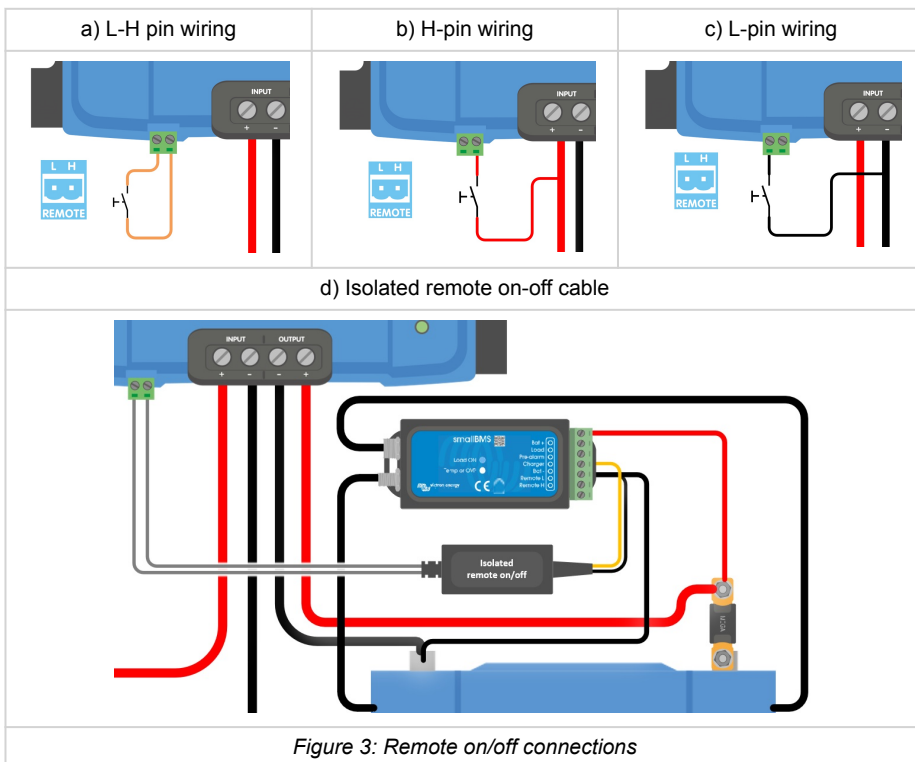
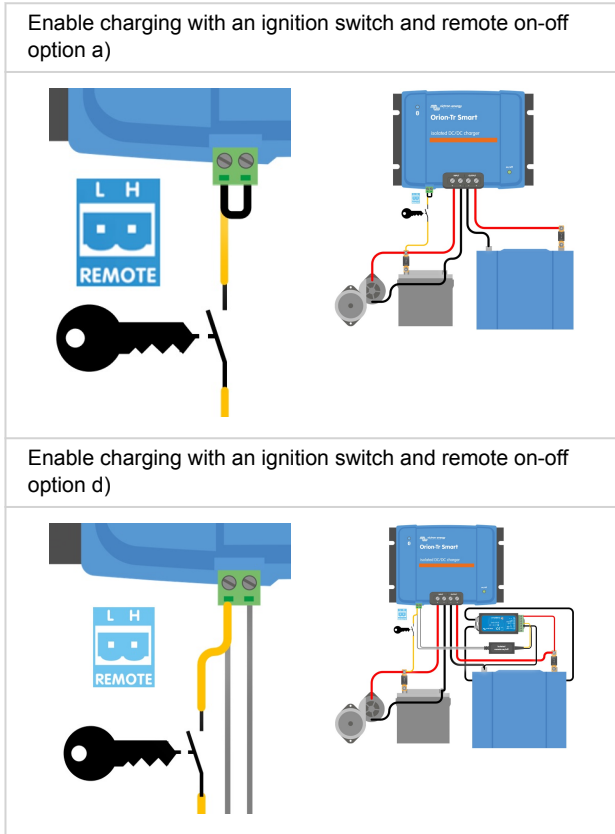

Figure 3: Remote on/off connections
Figure 4: Engine shutdown detection override connection diagram
**i** This function does not override the remote on-off function. Remote connection a), b) or d), as shown in Figure 3 must be configured in combination with engine shutdown detection override. See examples in figure 4.
**🔍** If the ignition switch in figure 4 is switched off, the charger will return to “engine shutdown detection” mode, it will not turn off the charger.